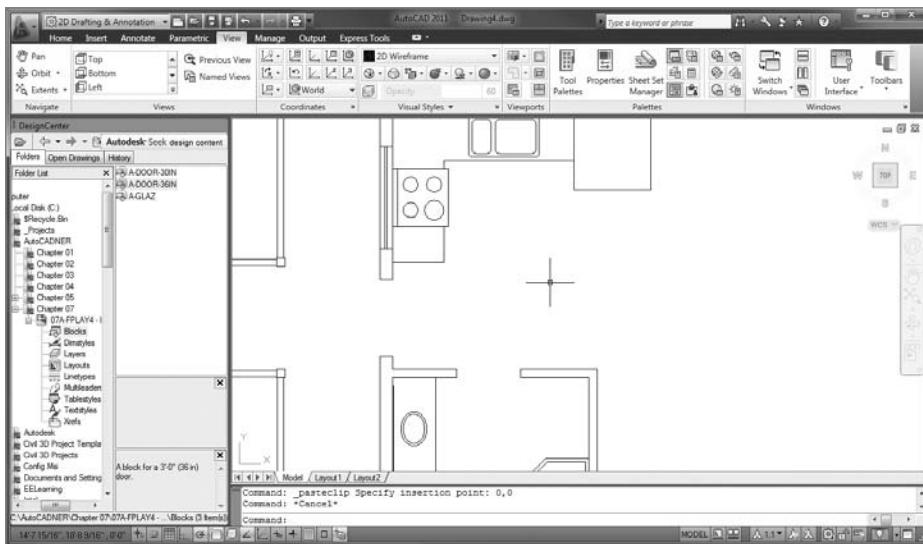

FIGURE 7.56 Zoomed into the back door area with the DesignCenter docked
- Dock the DesignCenter on the left side of the drawing area if it's not already there, and then zoom into the back door area of the drawing (see Figure 7.56). The Endpoint osnap should be running.